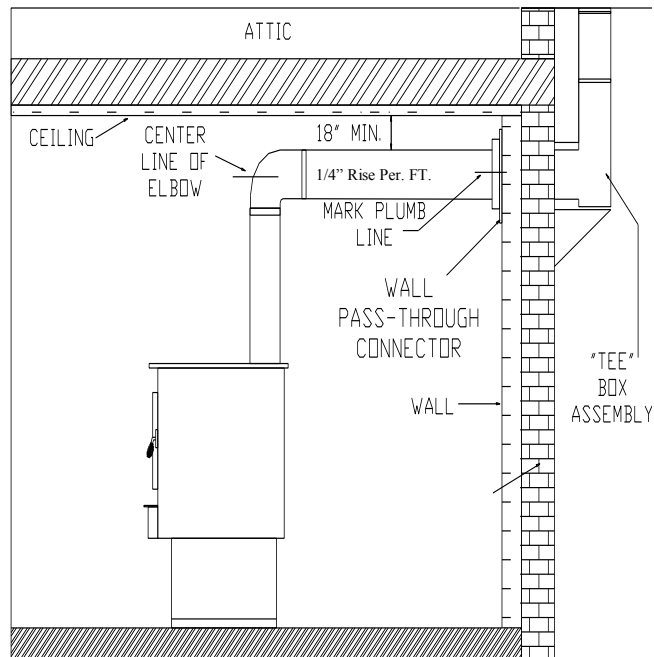

FIGURE 15
1. Mark plumb line on the wall directly behind the center of heater. (See Figure 15.)